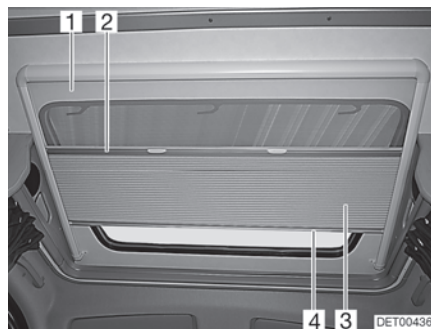

Fig. 48 Roof window
The Roman shade (Fig. 48,3) is permanently connected to the insect screen (Fig. 48,1).
- Hold the Roman shade in the centre of the bottom rod (Fig. 48,4) and carefully draw it downwards.
- Opening:** ■ Slowly return the Roman shade to its initial position with the bottom rod (Fig. 48,4).
- Closing:** ■ Hold the insect screen at the centre of the bottom rod (Fig. 48,2) and carefully pull it downward as far as it goes.
- Opening:** ■ Slowly return the insect screen on the bottom rod of the Roman shade (Fig. 48,4).